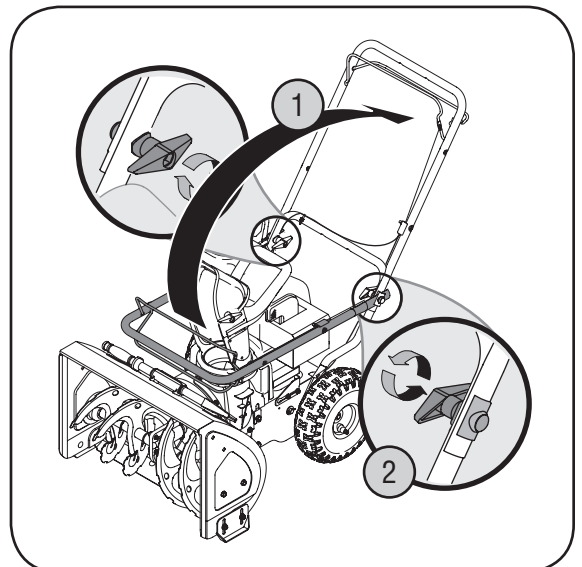

Figure 3
3. Hold both controls against upper handle and pull up as shown in Figure 3. Make sure that the upper handle locks over the lower handle and handle tabs align with the handle. You may have to carefully maneuver the upper handle to clear chute assembly.
4. Tighten the handle knobs on each side of the handle. Refer to step 2 in Figure 3.